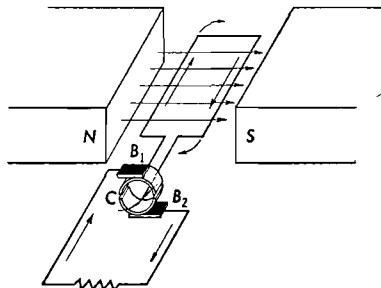
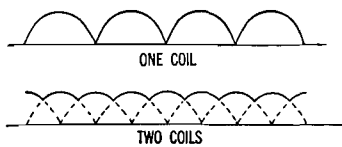

Fig. 24.4. A direct-current generator.
Fig. 24.5. Current from a direct-current generator.
**144. Direct-Current Generators.** If a direct current is desired in the outside circuit, the slip rings are removed and a divided ring called a *commutator* is used. If Figure 24.4 is compared with Figure 24.2 the essential difference between an alternating-current and a direct-current generator is evident. One end of the armature wire is fastened to one segment of the commutator and the other end to the opposite segment. The brushes are in contact with the commutator and are so placed that just as the current reverses in the armature the next section of the commutator comes in contact with a given brush. Therefore the current always leaves through one brush, travels around the outside circuit, and returns to the generator through the other brush. The current resulting from one turn of wire on the armature is shown in Figure 24.5.